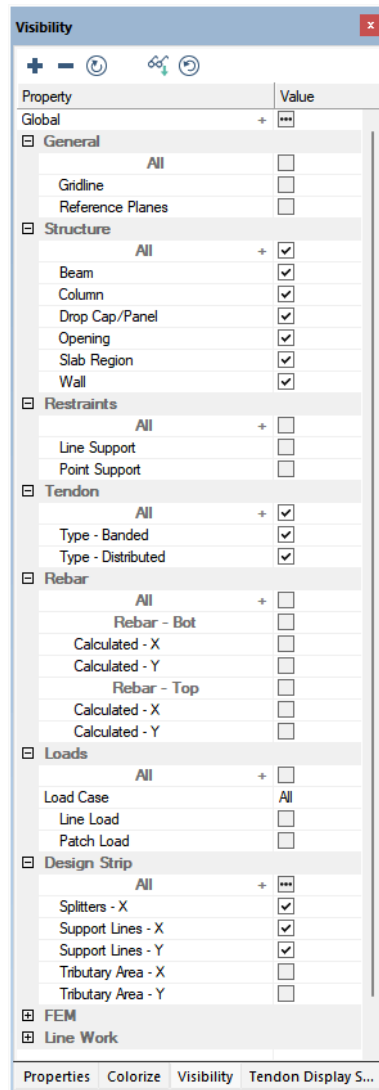

FIGURE 9-141
- Make the selections as shown in **FIGURE 9-141**.